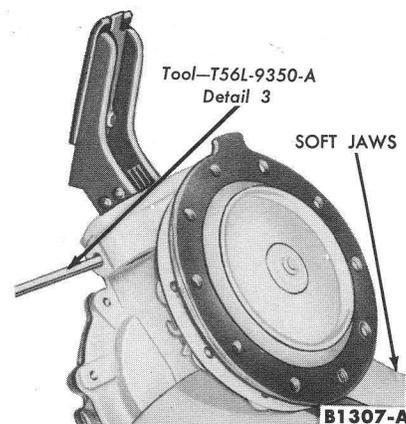

FIG. 1—Rocker Arm Pin Removal or Installation
7. Remove the upset on the end of the rocker arm pin. Remove the retaining washer. Drive the pin out (Fig. 1). Work the fuel pump and vacuum booster links out of the diaphragm stems.
6. Place the rocker arm return spring over the boss in the pump body. Place the rocker arm and link assembly in the pump body and hold them in place (Fig. 1).